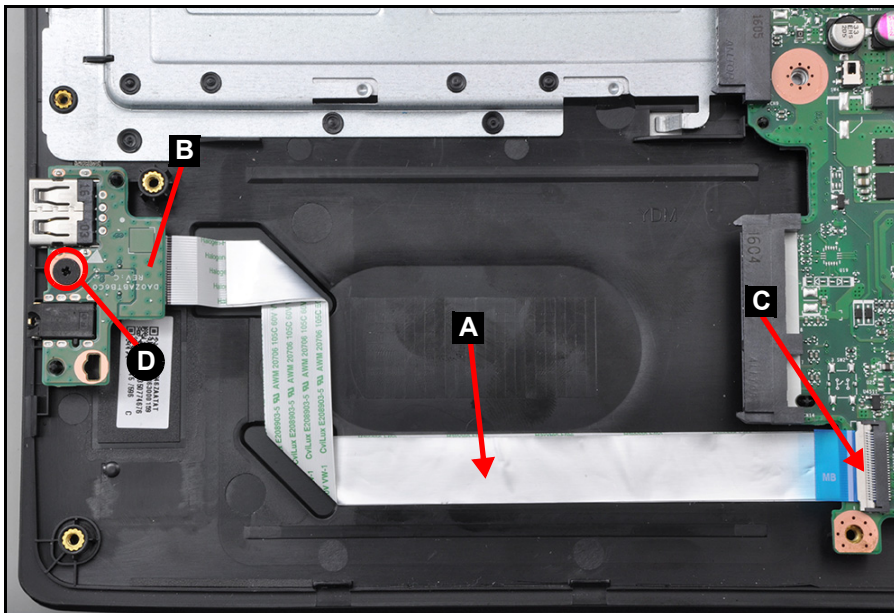

Figure 3-28. I/O Board Removal
2. Disconnect the I/O board FFC (A) from the mainboard connector (C) (Figure 3-28).
3. Peel off the I/O board FFC (A) from its adhesives (Figure 3-28).
4. Remove one (1) screw (D) securing the I/O board (B) in place (Figure 3-28).